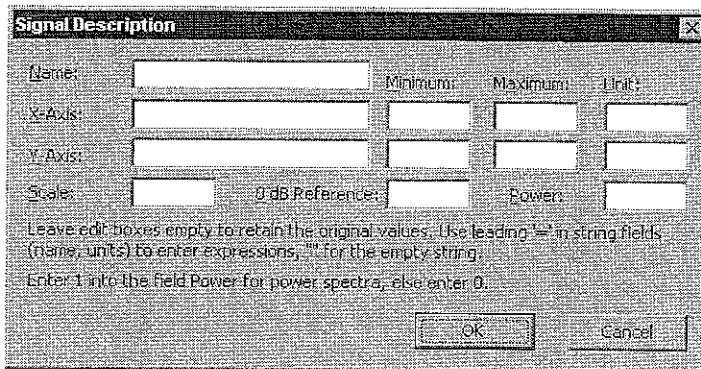

Figure 8.24: Dialog Signal Description
14. Click the cell A3 with the right mouse button and select Signal Description in the pop-up menu. The dialog Signal Description appears (refer also to figure 8.24).
10. Click the cell A2 with the right mouse button and select Signal Description in the pop-up menu. The dialog Signal Description appears (refer also to figure 8.24).
25. Click the cell B3 with the right mouse button and select Signal Description in the pop-up menu. The dialog Signal Description appears (refer also to figure 8.24).